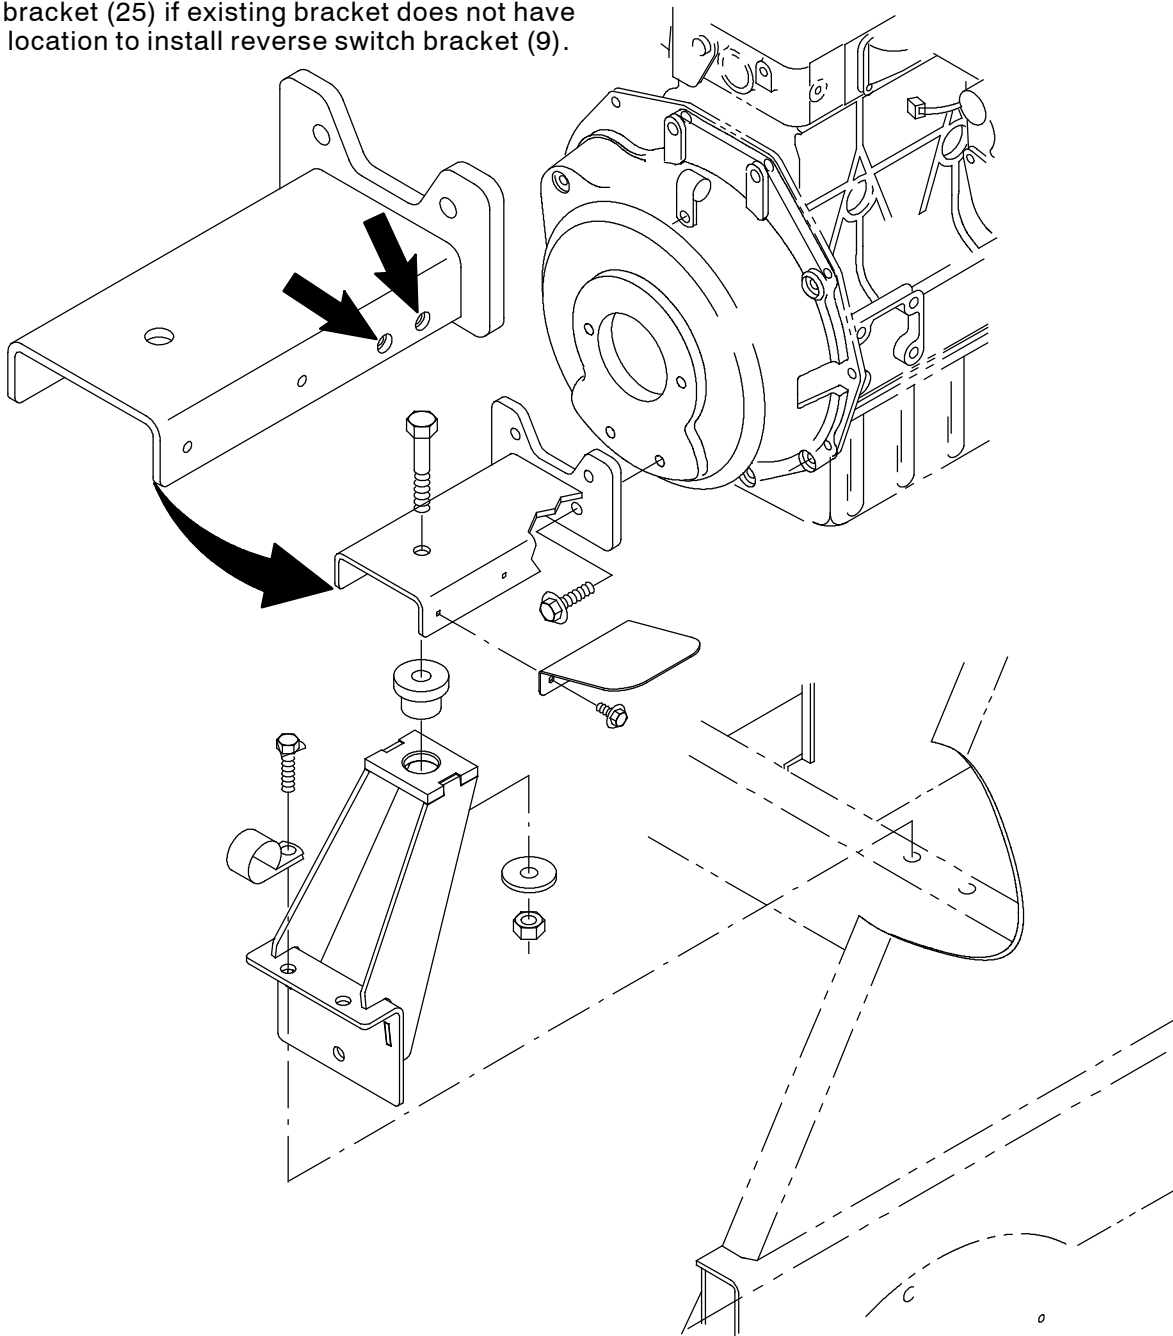

FIG. 1
3. Check the rear engine mounting bracket. If rear engine mounting bracket has a location for installing the reverse switch bracket (9) proceed to the next step. If rear engine mounting bracket does not have location for installing reverse switch bracket replace the rear engine mounting bracket with new rear engine mounting bracket (25). (Fig. 1)